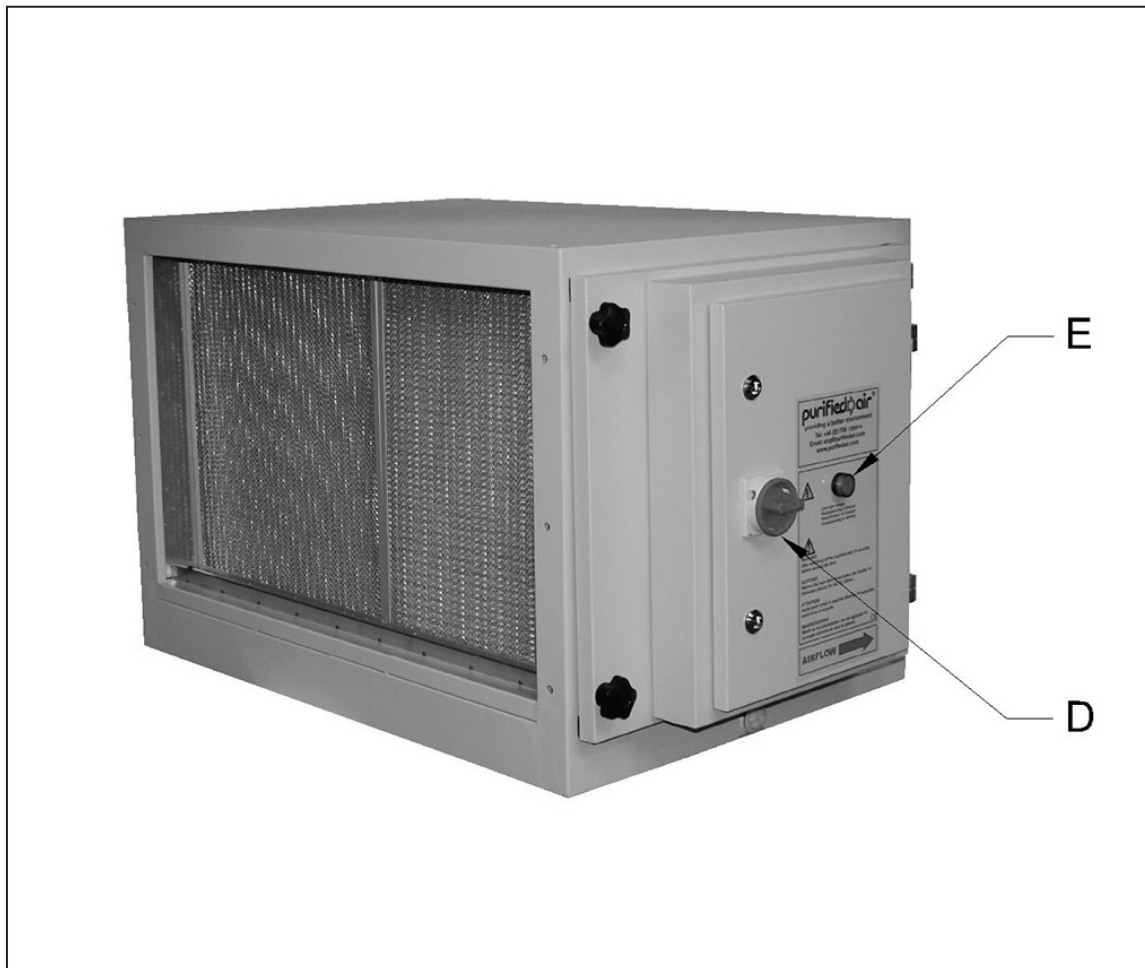

Figure 2.3
There is an on/off switch isolator (D) and a green run high-voltage indicator (E) on the control panel (see fig. 2.3). Please contact your dealer if the green run indicator is off when the isolator is in the on position. Regularly check the functioning of the indicator when using the product, since it indicates that the electrostatic filter is properly charged.